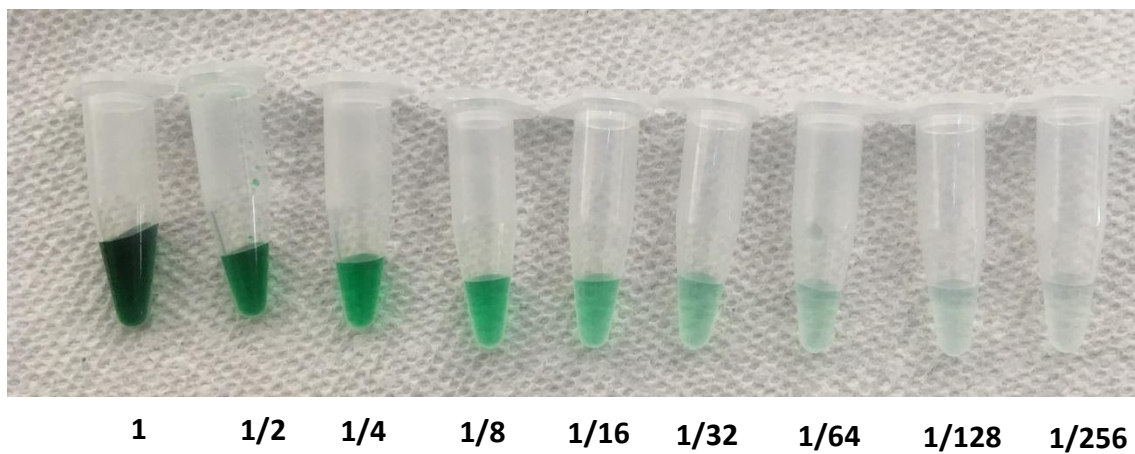

Fig. 4
8. Your final set of dilutions should look something like this in color (See Fig. 4).